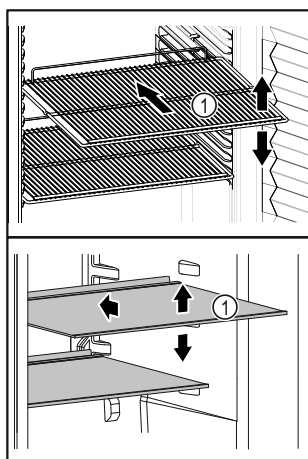

Fig. 65 Example illustration
- If storage surfaces Fig. 65 (1) are movable, adjust them according to height.